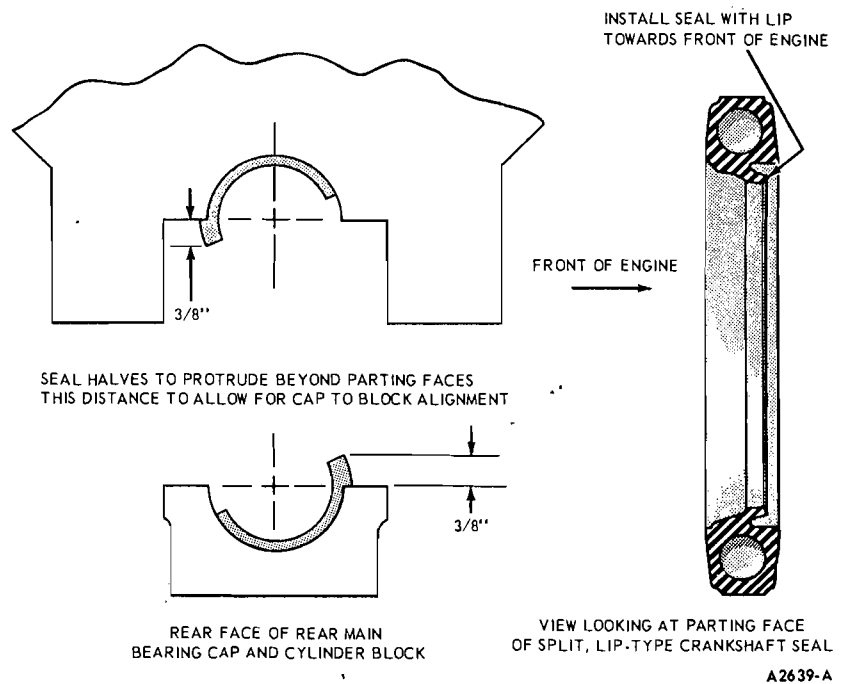

FIG. 54—Crankshaft Rear Seal Installation
6. Carefully install the upper seal (cylinder block) into its groove with undercut side of seal toward the FRONT of the engine (Fig. 54), by rotating it on the seal journal of the crankshaft until approximately 0.375 inch protrudes below the parting surface.
8. Install the lower seal in the rear main bearing cap with undercut side of seal toward the FRONT of the engine (Fig. 54), allow the seal to protrude approximately 0.375 inch above the parting surface to mate with the upper seal when the cap is installed.